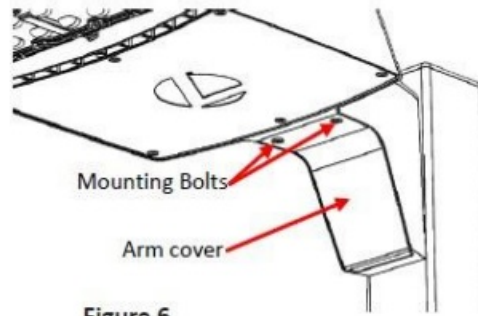

Figure 6
7. Reinstall the cover removed in step 1, and tighten the two captive screws with the 9/64 Allen wrench to 18-20 in lbs (overtightening can cause thread stripping and void all warranties) (See Fig 6).